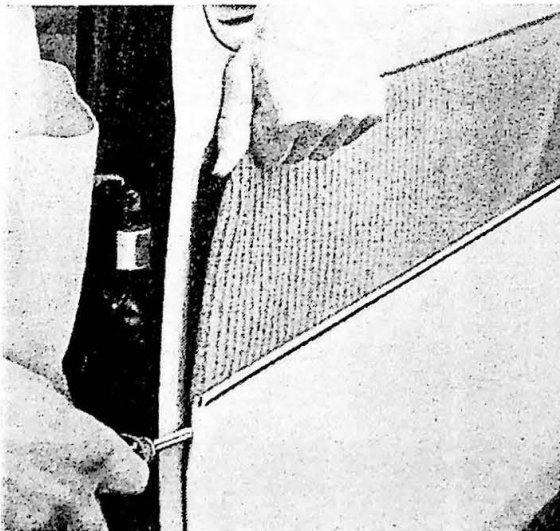

Fig. 15.
Fig. 15 and should be carried out very carefully.
2. Remove the door upholstery. Use a screwdriver which is inserted under the cloth and then bent outwards as shown in Fig. 15.
3. Remove the door upholstery. Use a screwdriver which is inserted under the upholstery and bent outwards as shown in Fig. 15.